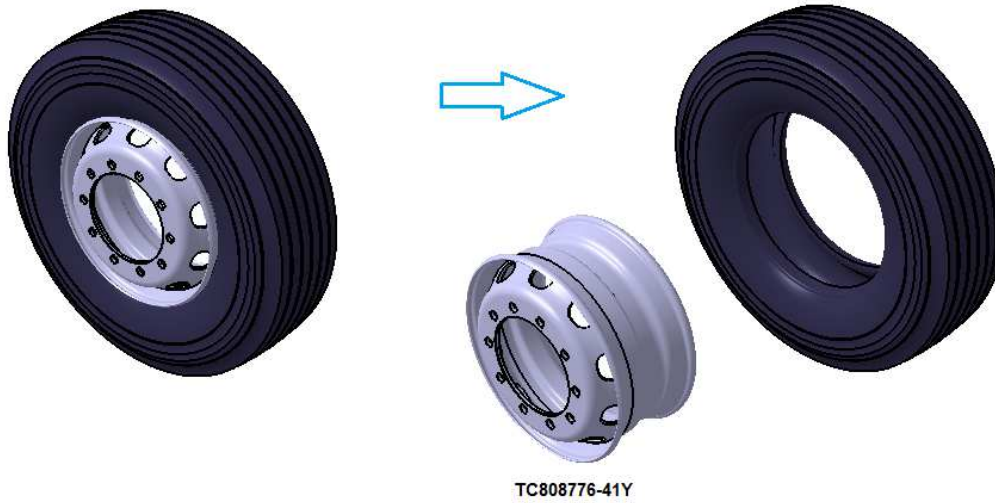

Figure-8
* Remove the existing rims (TC808776-41Y) from the front, tag and spare wheels shown in Figure-8.